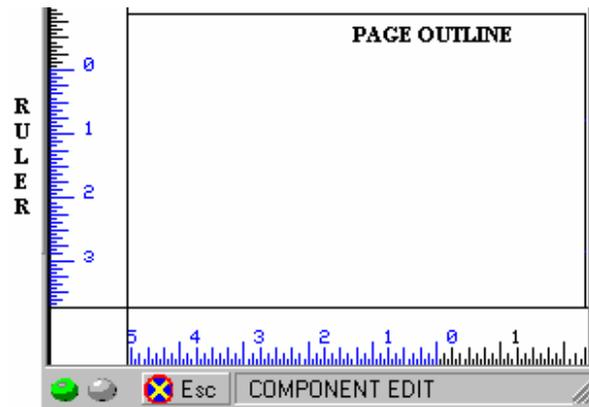

Fig.4.2
- i. Select  Redraw | Page from Standard Toolbar to display the default page within the GUI window as shown in Fig.4.2.